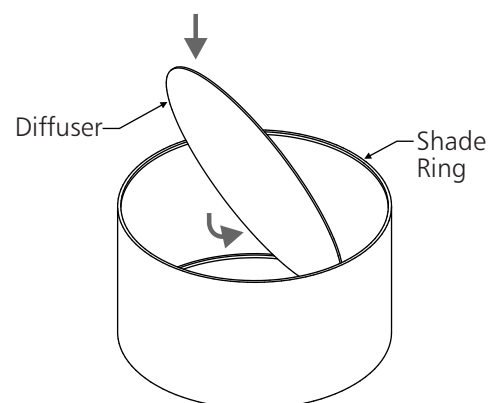

**Fig. 4 - Circuit Wiring Detail**
- Top Diffuser Option: With Top Diffuser sandwiched between, secure Diffuser Cap to Diffuser Hub using (4) #6-32 x 1/4" Undercut Flat Head Phillips Screws. Slide Diffuser Assembly onto Stem. Align top of Diffuser Cap to bottom of Tape and secure to Stem using (1) Set Screw. Remove Tape.
- Thread Stem Coupling Plate onto Stem and secure using (2) Set Screws. Feed Fixture Wire through Stem. Attach Stem Coupling Plate to Band using (6) #10-32 x 1/2" Socket Head Socket Screws. With Stem/Band assembly in upright position, carefully set Top Shade into Band.
- Lift Stem/Top Shade/Band assembly and make secure electrical connections between Fixture Wire and Supply Wire according to local regulations. (Fig. 4 & 8). Insert excess connectors and wire into Junction Box or Surface Mount J-Box. Install (6) A19 E27 LED Bulbs into Sockets. Turn power on and test continuity.
- Attach Ceiling Plate to Junction Plate using (4) #10-24 x 1" Flat Head Socket Screws or to Surface Mount J-Box using (4) #10-24 x 1/2" Flat Head Socket Screws. Attach Ceiling Plate to reinforcing using (4) #12 x 3" Flat Head Wood Screws.